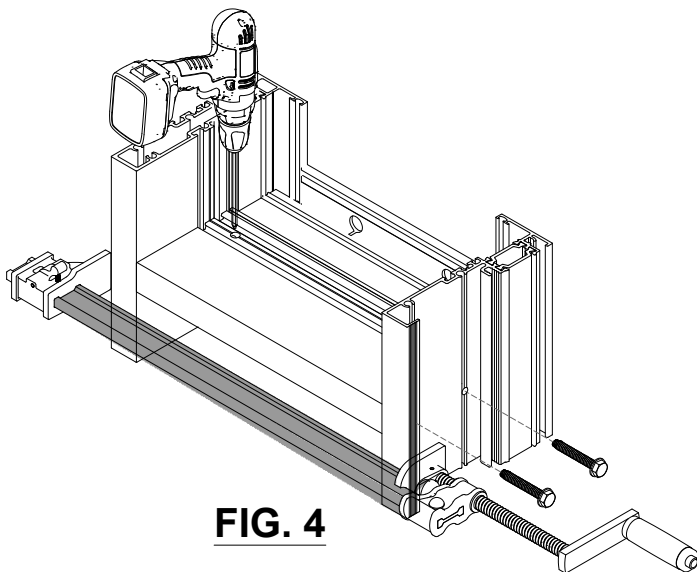

FIG. 4
- Carefully set the horizontal section onto the shear block lining up the assembly holes and match drill pilot hole for #10 Screw through the Shear Block. **See FIG 4**